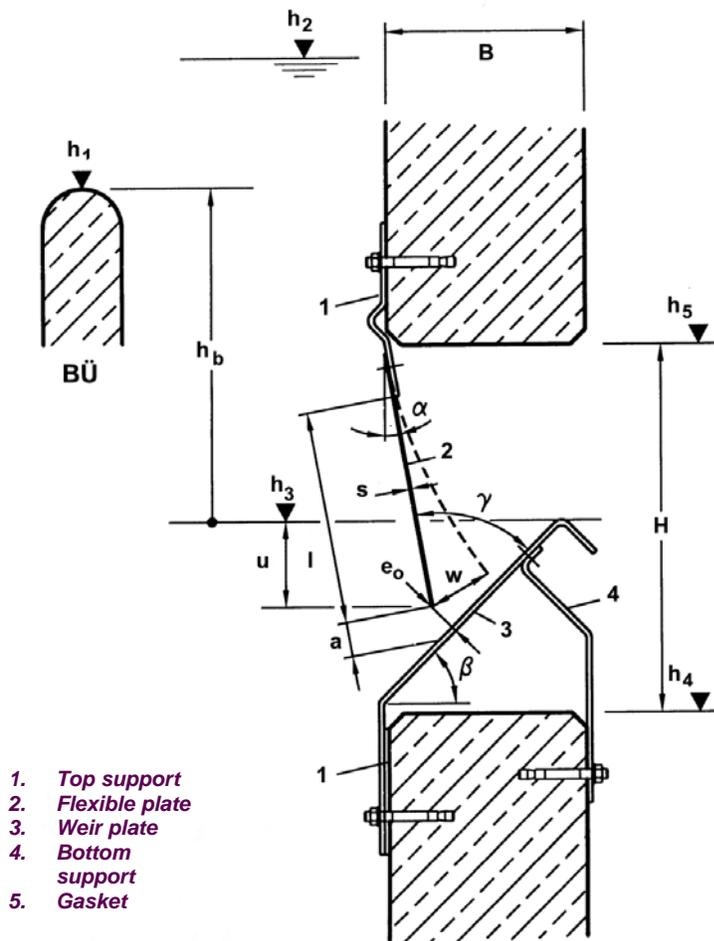

Figure 2: Construction of a HYDROVEX® Clari
Rather than creating a narrow overflow slit in the back wall of the static clarifier tank, a more important reservation in the wall thickness is kept. This reservation height must be according to dimension “H” from the top drawing and **Figure 2**. The top portion of the opening holds the angled support plate (2) with the pressure band (1). The stainless steel bending sheet (3) is bolted on the support plate. This bending sheet is generally 1mm thick. The support plate angle sets the bending sheet at a definite angle “A”, just on top of the opening. The bottom portion of the concrete opening is fitted with a stiff steel sheet shaped as a beaching plate. It is held in place by a pressure band identical to (1). This pressure band (5) helps to set the beaching plate at a pre-set angle “B”. When the system is at rest, the distance between the bending steel sheet and beaching plate is “EA”. This is the effective overflow slit that will regulate the overflow.